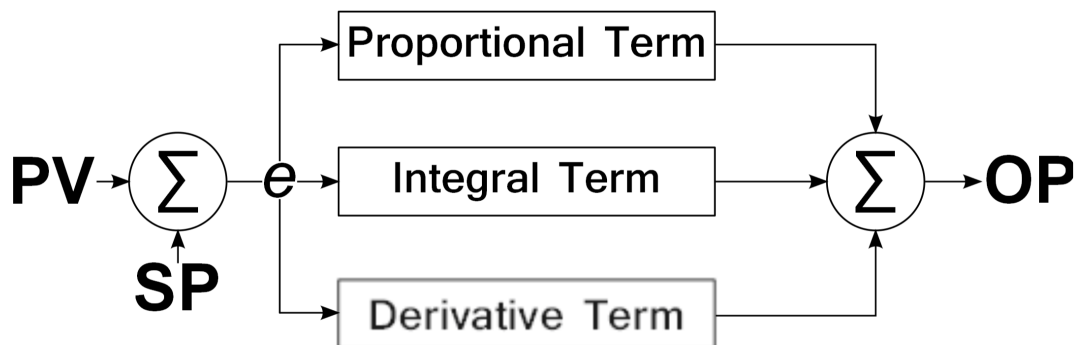

Figure 4.1: PID Calculation
**PID Controller** Used in applications where control provided by other permutations of P, I and D actions are inadequate. The PID controller calculates an error value between a measured process variable and a desired setpoint. The calculated error is used in three separate calculations that calculate an output proportional to the error (the proportional term), an output proportional to the magnitude and duration of the error (the integral term) and an output proportional to the rate of change of the error (derivative term). The PID controller output is the sum of the three constituent terms as shown in figure 4.1. The result is in the form a decimal fraction1 that is converted to a percentage for control output.